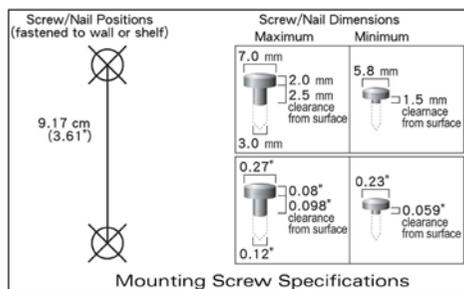

Figure 1: PoE Midspan mounting instructions
1. Install two screws in the wall or shelf as shown in Figure 1.